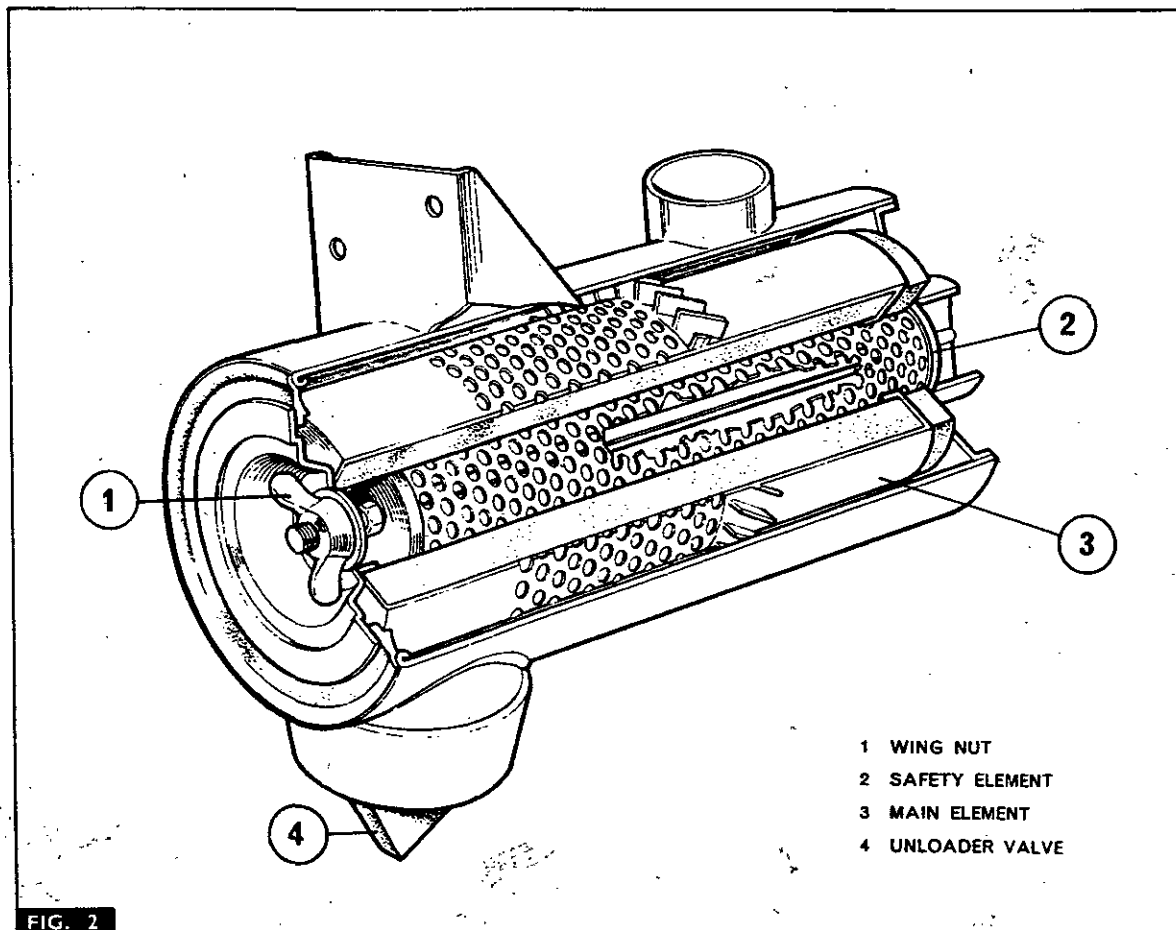

FIG. 2
The two stage dry air cleaner is situated alongside the battery on the R.H. side of the tractor. A section through the air cleaner is shown in Fig. 2. Air entering the cleaner is swirled so that particles of grit and dust are spun off and expelled through the unloader valve (4).